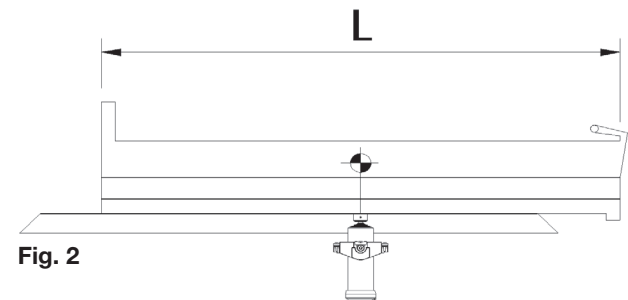

Fig. 2
- Normally, especially for 3way tipper application, we recommend to mount the underbody cylinder in the middle of the body (Fig. 2); For rear application, according to the chassis and body design it is possible to mount it in front of the centre of gravity of the body.